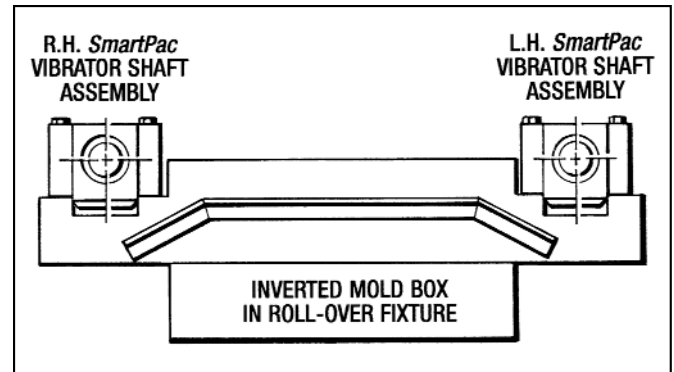

Figure 4.2 - Inverted Mold Box
2. Set the new *SmartPac* vibrator shafts into position on the mold bars. You may have to use the pry bar in each gap to nudge the bearing housings down until they seat themselves completely into the mold bar notches. See Figure 4.2.
NOTE - Don't forget that when the Mold Box is inverted the L.H. Shaft is on the right side and the R.H. Shaft is on the left side as shown in Figure 4.2.